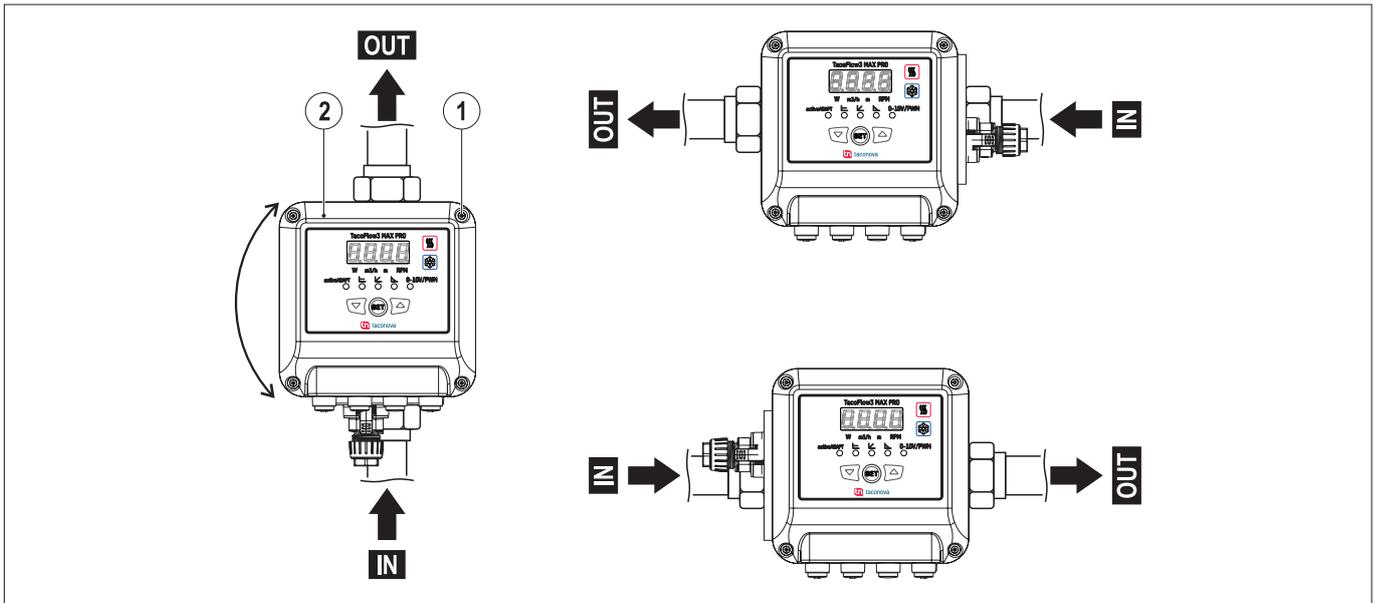

FIG. 8 (Positions of the engine cover)
THE MOTOR BODY CAN BE ROTATED TO THE POSITIONS SHOWN IN FIG. 8. THE POSITIONS OF THE MOTOR BODY REFER TO BOTH THE MAX AND MAX PRO MODELS.
- 1) Unscrew and remove the four engine cover screws (FIG. 8 - Ref. 1).
- 2) Rotate the engine cover (FIG. 8 - Ref. 2) in the desired position without removing it from the circulator body.